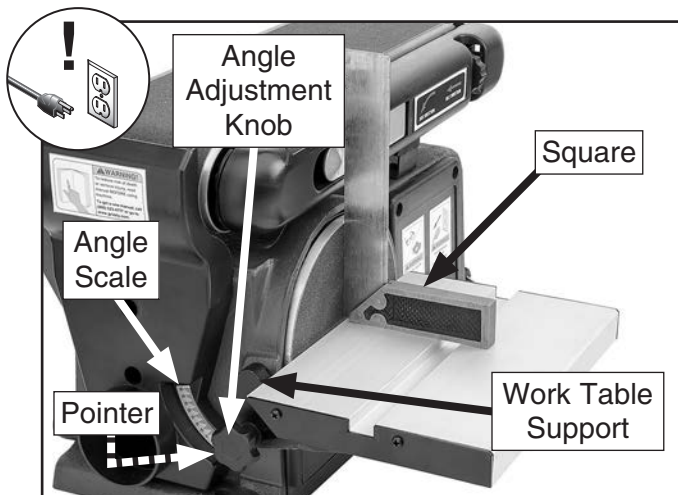

Figure 15. Setting work table angle.
2. Loosen angle adjustment knob, and position work table so pointer on end of work table support aligns with desired angle on angle scale (see **Figure 15**).